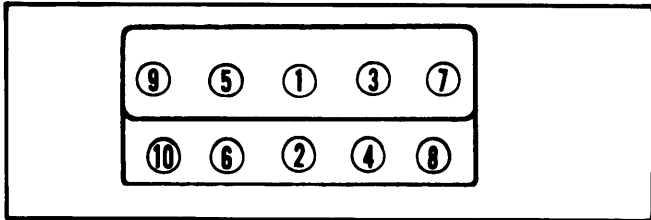

Fig. 2 Cylinder Head Tightening Sequence
2) Install cylinder heads and bolts. Tighten head bolts to specifications in 2 steps in sequence shown in Fig. 2. Reverse removal procedure to complete installation.